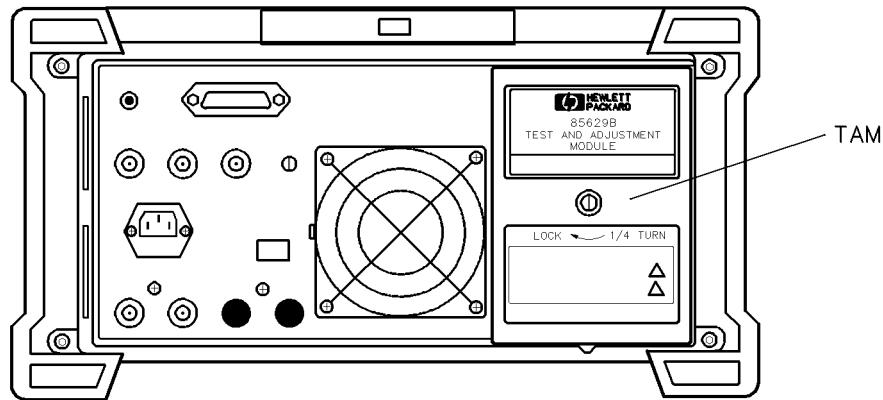

Figure 2-2. Installing an 85629B
3. Use a flat-blade screwdriver to secure the 1/4-turn fastener that holds the TAM in place. See Figure 2-2.